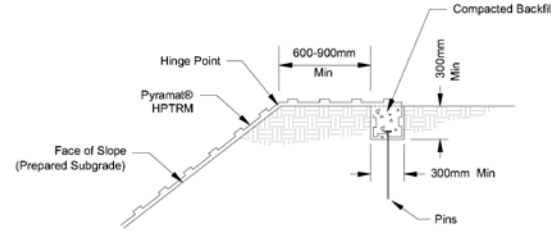

FIGURE 2: INITIAL TRENCH AT TOP OF SLOPE DETAIL
- Beginning at the downstream end of prevailing winds, place roll end into the initial trench and secure with pinning devices on 300mm centers (see Figure 2). Position adjacent rolls and secure in trench in same manner. Backfill and compact soil into trench as directed and approved by Engineer.